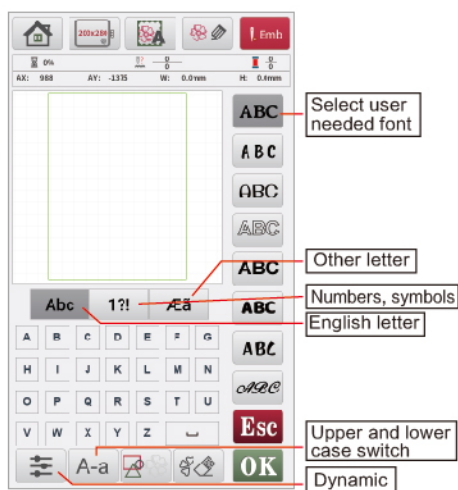

Figure 5
(1) Click grey “A”, numbers, symbols key to enter the font selection in Figure 5 interface
(2) Click one of the eight fonts to insert letters, numbers and symbols. Press the combination key to continuously arrange and ungroup, displaying individual letters, numbers, and symbols